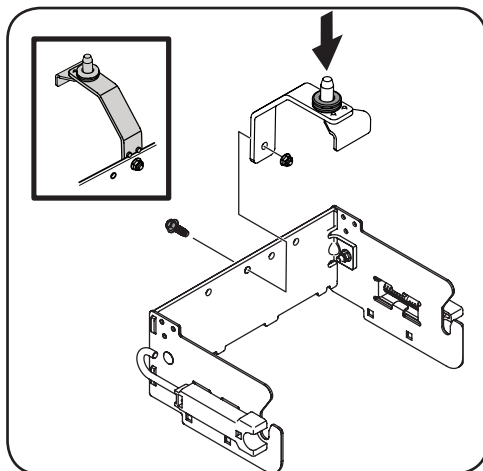

Figure 1-2
3. Flip over bracket assembly and mount the bracket support assembly (ref. #2) on the center hole of the rear support bracket using the hex screw (ref. part #10) and flange lock nut (ref. part #12). See Figure 1-2.
4. Attach the rubber grommet to the pin at the bottom of the bracket support assembly. See inset in Figure 1-2.